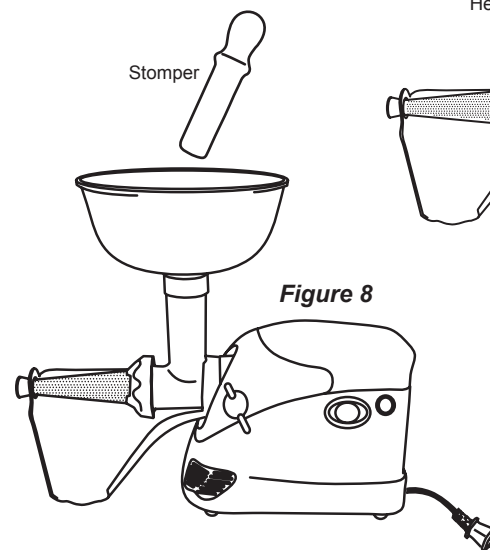

Figure 8
14. **ALWAYS** us the **Stomper** to push food into the **Head/Hopper**, **NEVER** use hands or fingers (figure 8).